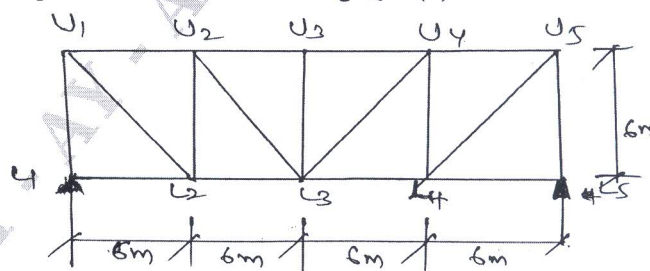

Fig.Q10(b)
- b. Determine the influence line diagram for the forces in the members  $U_1U_2$   $U_2U_3$   $L_2L_3$   $U_2L_2$  and  $U_2L_3$  for the part truss as shown in Fig.Q10(b).